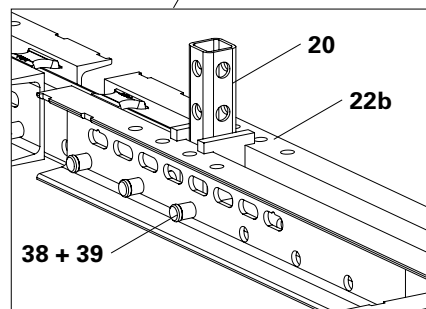

Fig. B4.04a
1. As a main beam (22c), assemble Steel Waler Universal SRU (22) with Longitudinal Connector SRU (4) according to project-specific dimensions.
2. Suspend Cross Connector VARIOKIT (20) above in the Cross Beam (22b) and secure with fitting pins (38) and cotter pins (39). (Fig. B4.04a)